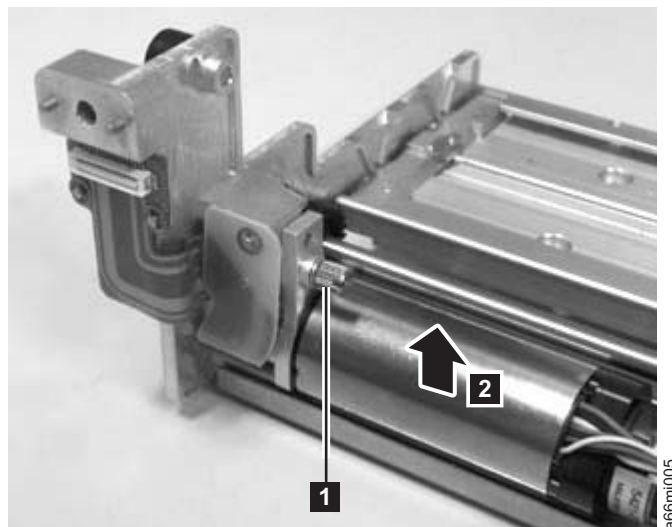

Figure 8-49. Y motor thumb screw
6. Loosen the thumb screw (1 in Figure 8-49), slide the motor to the left, then lift the motor out of the Y-axis Assembly (2 in Figure 8-49).